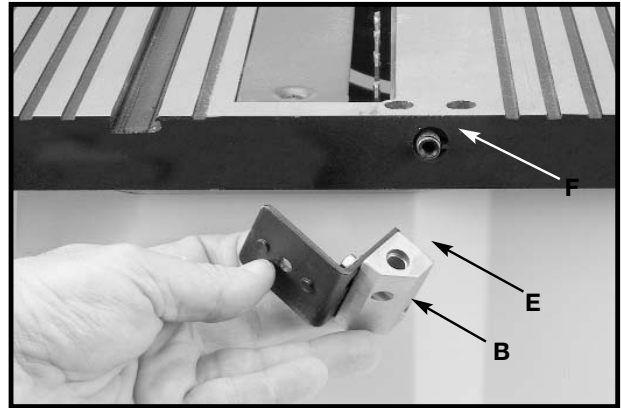
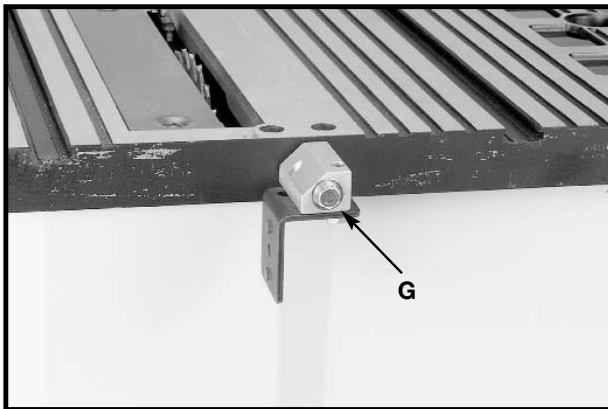

Fig. 19
Fig. 20
4. Position the recessed end (E) Fig. 19 of the splitter bracket (B) against the end of the pivot rod (F), and fasten using the assembly in **STEP 3**. **NOTE: Do not completely tighten screw (G) at this time.** Assembly shown in Fig. 20.